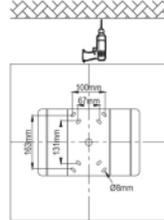

Figure8
1. Drill the alignment holes on the top ceiling, make them match to the holes on mounting bracket. (Figure 8)